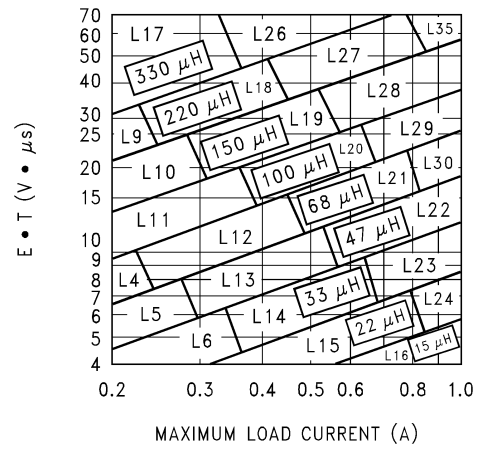

Figure 25. tLM2595-ADJ
<p>2. Inductor Selection (L1)</p> <p>A. Calculate the inductor Volt • microsecond constant $E \cdot T$ ($V \cdot \mu s$), from the following formula:</p> $E \cdot T = (V_{IN} - V_{OUT} - V_{SAT}) \cdot \frac{V_{OUT} + V_D}{V_{IN} - V_{SAT} + V_D} \cdot \frac{1000}{150 \text{ kHz}} (V \cdot \mu s) \quad (4)$ <p>where V_{SAT} = internal switch saturation voltage = 1V and V_D = diode forward voltage drop = 0.5V</p> <p>B. Use the $E \cdot T$ value from the previous formula and match it with the $E \cdot T$ number on the vertical axis of the Inductor Value Selection Guide shown in Figure 25.</p> <p>C. on the horizontal axis, select the maximum load current.</p> <p>D. Identify the inductance region intersected by the $E \cdot T$ value and the Maximum Load Current value. Each region is identified by an inductance value and an inductor code (LXX).</p> <p>E. Select an appropriate inductor from the four manufacturer's part numbers listed in Table 5.</p>	<p>2. Inductor Selection (L1)</p> <p>A. Calculate the inductor Volt • microsecond constant ($E \cdot T$),</p> $E \cdot T = (28 - 20 - 1) \cdot \frac{20 + 0.5}{28 - 1 + 0.5} \cdot \frac{1000}{150} (V \cdot \mu s)$ $E \cdot T = (7) \cdot \frac{20.5}{27.5} \cdot 6.67 (V \cdot \mu s) = 34.8 (V \cdot \mu s) \quad (5)$ <p>B. $E \cdot T = 34.8 (V \cdot \mu s)$</p> <p>C. $I_{LOAD(max)} = 1A$</p> <p>D. From the inductor value selection guide shown in Figure 25, the inductance region intersected by the 35 ($V \cdot \mu s$) horizontal line and the 1A vertical line is 100 μH, and the inductor code is L29.</p> <p>E. From the table in Table 5, locate line L29, and select an inductor part number from the list of manufacturers part numbers.</p>